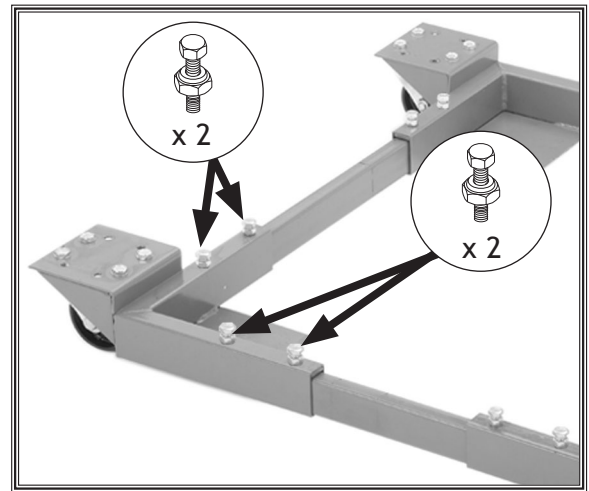

Figure 15. Rails secured to fixed corner brackets.
7. Thread (1) 8mm lock nut halfway onto each M8-1.25 X 25 hex bolt with the nylon insert on the nut facing the head of the bolt.
8. Secure each end of the rails to the corner brackets with (2) M8-1.25 x 25 hex bolt and 8mm lock nut assemblies as shown in **Figure 15**. Tighten the lock nuts against the rail.
Each side rail-to-corner bracket connection must use both hex bolts, making a total of four bolts at each corner, as shown in **Figure 15**. Do not load a machine onto the base until all of these bolts have been installed and tightened. Loading a machine onto the base before completing assembly can result in the machine falling or tipping over, resulting in serious personal injury.